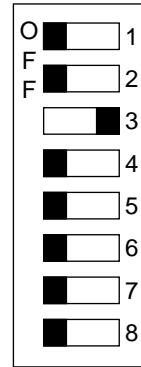

Figure 5-101
- 2-1) Set DSW1 on the finisher controller PCB as shown in Figure 5-101.